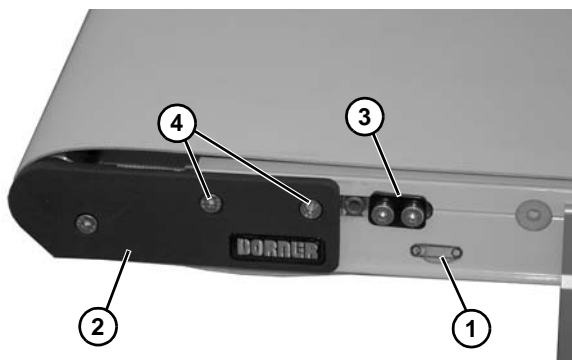

Figure 26
6. On tension end of the conveyor, identified with a  label (**Figure 26, item 1**), push in head plate assembly (**Figure 26, item 2**): On both sides of conveyor, loosen and move cam tracking assemblies (**Figure 26, item 3**) (if equipped) away from head plates, then loosen fastening screws (**Figure 26, item 4**) and push head plate assembly inward.